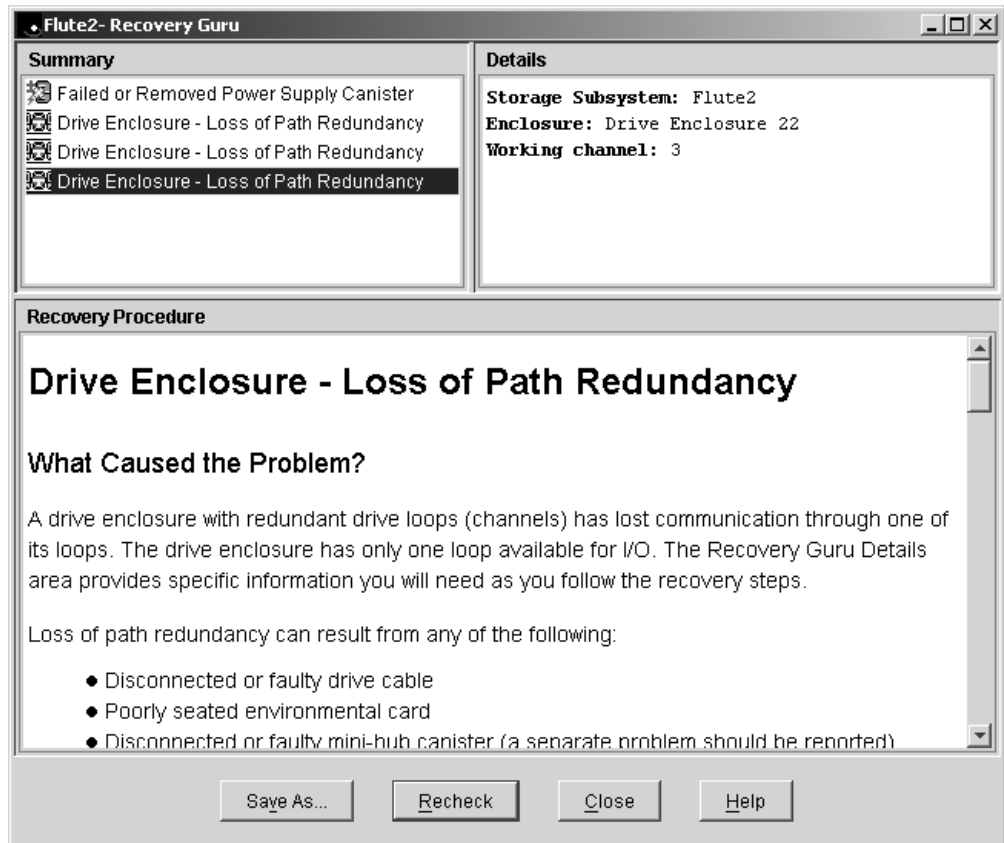

Figure 155. Recovery Guru - Loss of path redundancy
**Note:** Figure 155 on page 324 also shows the message Failed or Removed Power Supply Cannister. However, this message is not significant here because the power supply was removed for purposes of illustration.